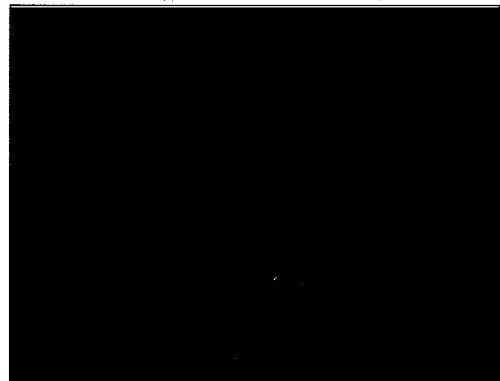

Figure 32
6. Make sure that the plug in the recovery drain hose is in place and has been tightened (see figure 32).